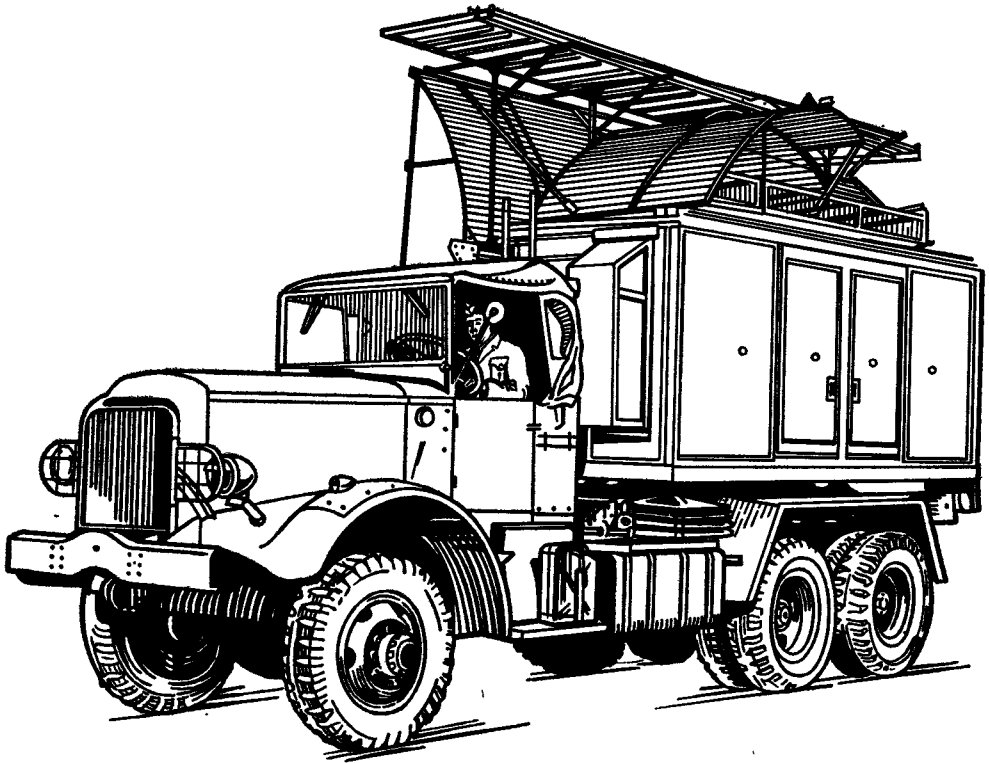
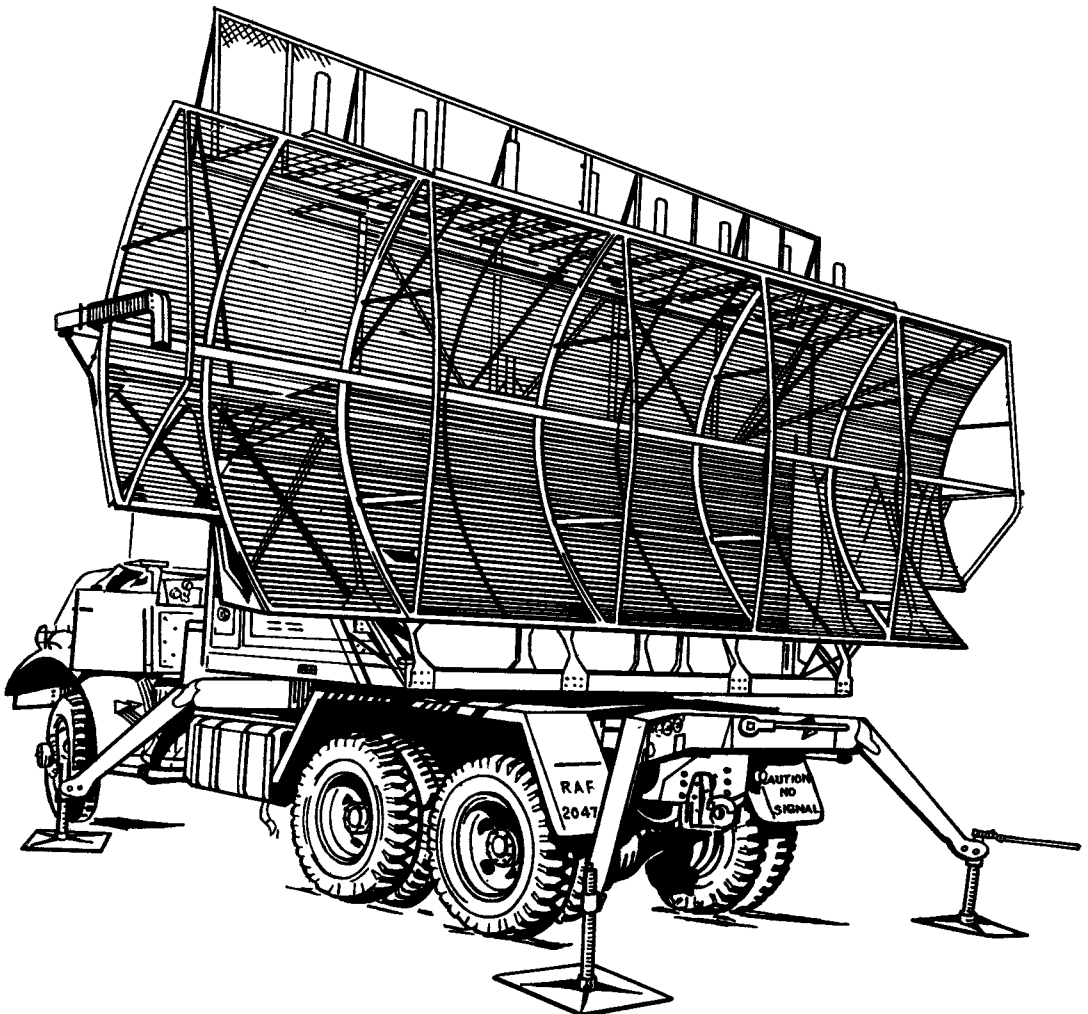

Fig. 12. R.V.462C in transit condition (left-hand side)
Fig. 14. R.V.462C in operational condition
21. Fig. 12 and 13 show the vehicle in transit condition and fig. 14 shows it when operational. The installation involves :—